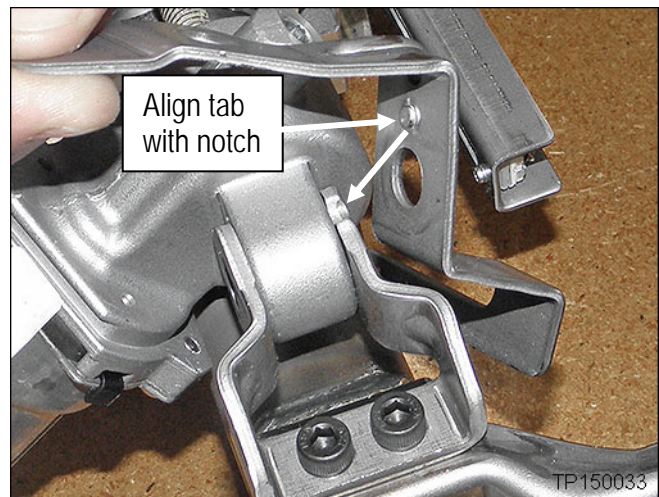

Figure 18
- e. Make sure the tab on the harness bracket is still aligned with the notch in the support bracket (see Figures 18 and 21).